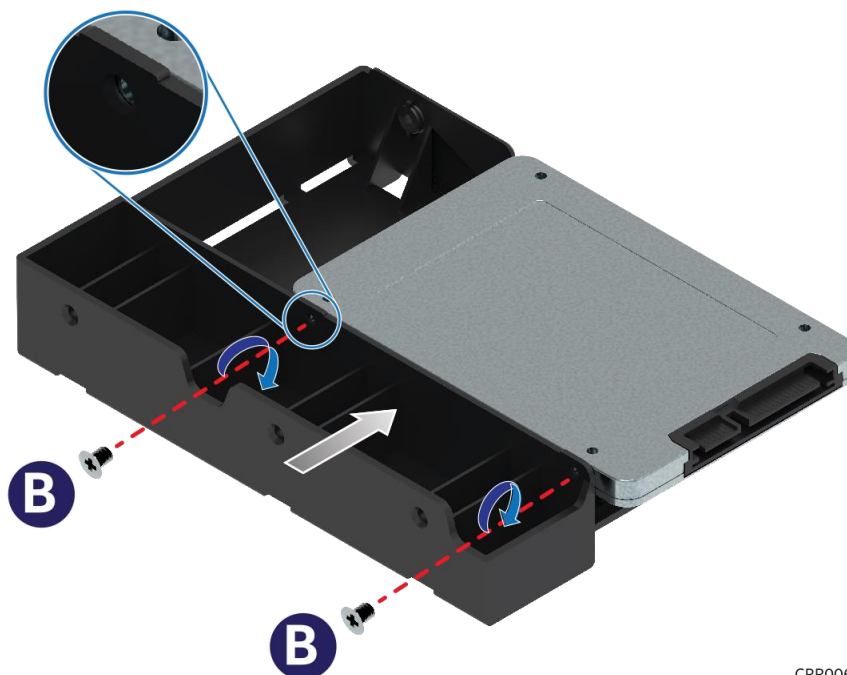

Figure 38. Installing a 2.5" SSD in a 3.5" drive carrier – mount SSD to bracket
3. Mount and secure the 2.5" SSD to the drive bracket using two screws at the locations shown in Figure 38 (B).